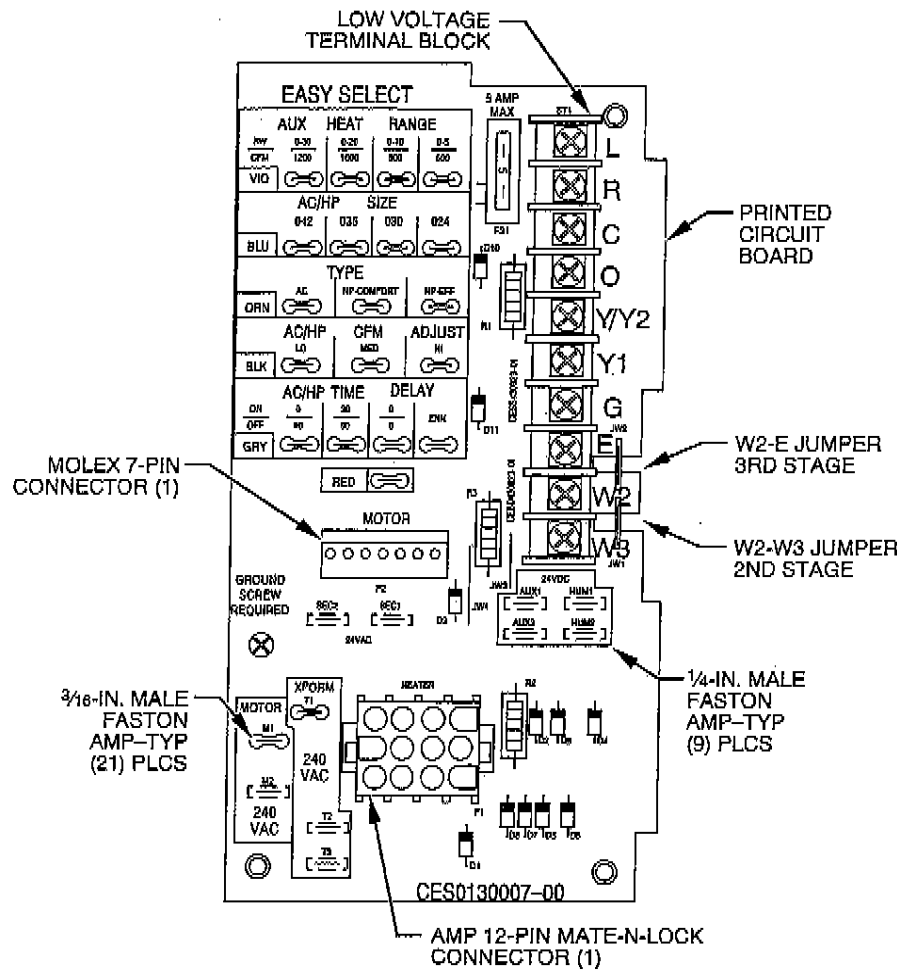

Fig. 6—Easy Select Board
NOTE: Layout of actual PCB is depicted in Fig. 6 and 7.
The Easy Select taps are used by installer to configure system. The ICM2 uses selected taps to modify its operation to a pre-programmed table of airflows. Airflows are based on system size or mode of operation and those airflows are modified in response to other inputs such as the need for de-humidification. (See Fig. 6.)
electric heaters are energized, the ICM2 will run the higher of heat pump efficiency airflow and electric heater airflow. The factory selection is largest heater range approved. (See Fig. 6.)
The factory setting for air conditioner or heat pump size is largest unit meant for application with model of fan coil purchased. The installer needs to select air conditioner or heat pump size to ensure that airflow delivered falls within proper range for size of unit installed in all operational modes. (See Fig. 6.)
The factory setting is AC. (See Fig. 6.)
Select low, medium, or high airflow. To provide any of these airflows, AC/HP ADJUST select must be moved to MED position. The factory selection is LO. The adjust selections HI/LO will regulate airflow supplied for all operational modes, except non-heat pump heating modes, +10 percent and -10 percent respectively. The adjust selection options are provided to adjust airflow supplied to meet individual installation needs for such things as noise, comfort, and humidity removal. (See Fig. 6.)
Select desired time delay profile. Four motor operation delay profiles are provided to customize and enhance system operation. (See Fig. 6.) The selection options are:
1. Check low-voltage transformer leads (red and brown). Be sure they are wired to correct locations. (See Fig. 6 and 8.)
2. Check output voltage of transformer secondary side SEC2 and SEC1. Be sure transformer output is around 24 vac. If transformer output is zero vac and transformer is receiving correct input voltage (208v or 240v), then transformer needs to be replaced with recommended transformer. If transformer output is 24 vac, proceed to items 3 and 4.
3. Check low-voltage fuse shown in Fig. 6. If fuse is blown, replace it. The transformer cannot supply power to board with fuse blown or loose. If fuse blows when unit has power applied to it, the system most likely has 1 of the following problems: